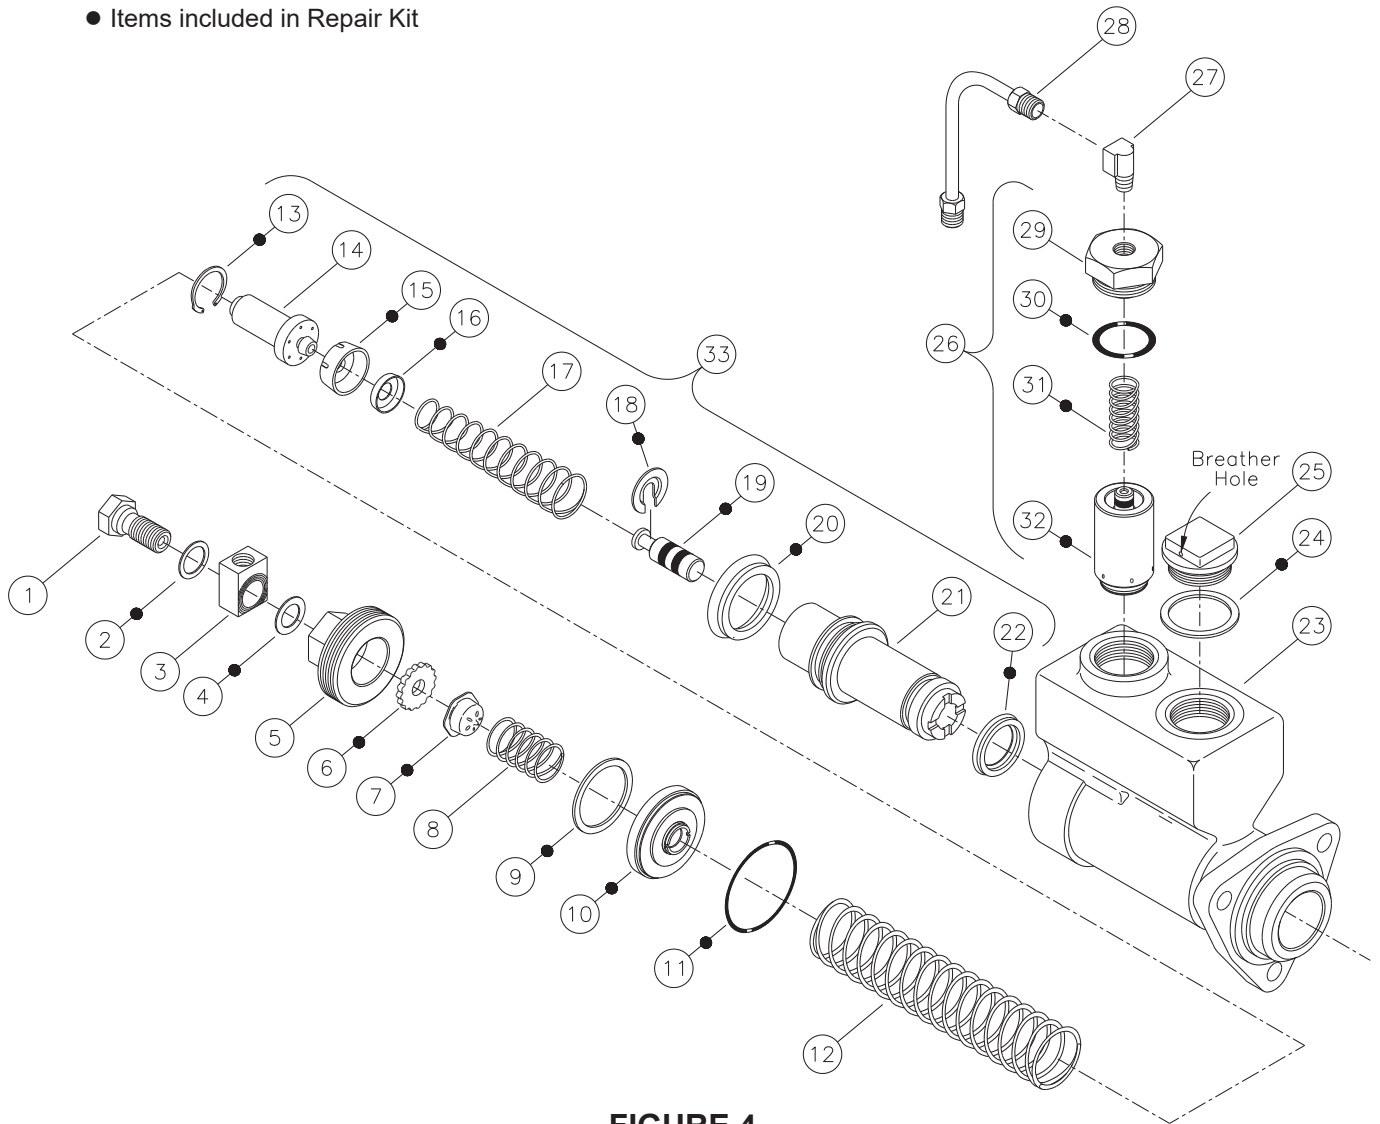

FIGURE 4
2. Install new slotted retainer (18) on new piston assembly (19) and gently insert into piston (21). Note direction of retainer (18).
3. Install spring, large end first, into piston (21). Install new retainer (16) on end of spring (17). **NOTE: Retainer (16) removed from your cylinder may appear different than retainer (16) in figure 4, replace with the new retainer provided in the repair kit.**
4. Install new cup (15) on piston (14).
5. Insert piston (14) into piston (21) with cup (15) against retainer (16). Depress piston and install new retaining ring (13).
6. Install new cup (20) and new cup (22) on piston (21). Note direction of cups.
7. Install piston assembly (33) into housing (23). Note direction of piston assembly.
8. Install spring (12) over piston assembly (33).
9. Install new o-ring (11) in housing (23) and new seal (9) on new retainer assembly (10). Install new retainer assembly (10) into housing (23). Note direction of retainer assembly (23).
10. Assemble new seat (6), new check valve (7), and spring (8) between retainer assembly (10) and end plug (5). **NOTE: Not all master cylinders contain a seat, check valve, and spring.**
11. Lubricate threads of end plug (5) and install into housing (23). Torque end plug (5) with a large box end wrench to approximately 67.8-108.5 N·m (50-80 lb-ft).
12. Insert new piston and body assembly (32) into housing (23).